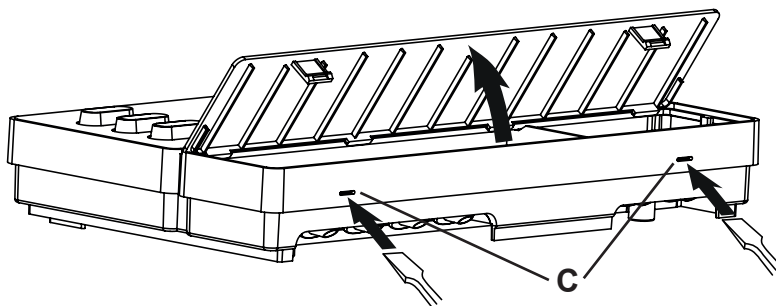

Fig. 2 Removing the cover from the housing
2. Press the clip locks **C** in lightly using a screwdriver and remove the cover from the housing (see **Fig. 2**).